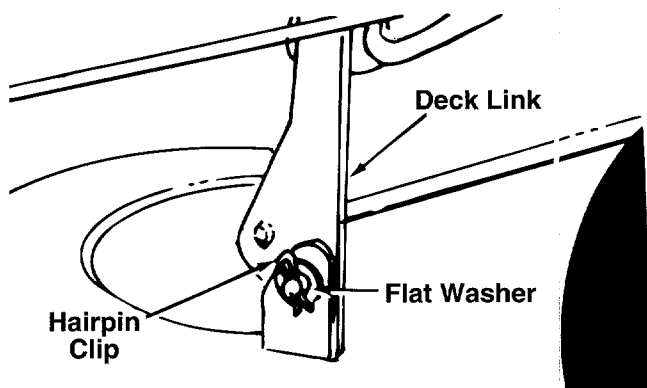

FIGURE 28.
9. Remove the three hairpin clips and flat washers which hold the deck links to the rider. Two are located at the rear of the deck. See figure 28. One is located at the front of the deck.